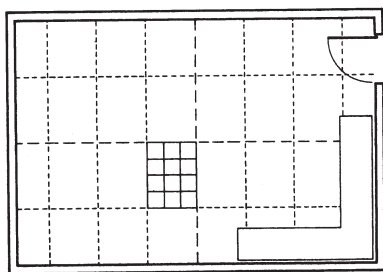

Fig. 10 - Lay out smaller sections for grouted floors.
- When installing grouted floors, divide the floor into smaller sections to help maintain consistent grout line widths and keep the joints running straight (Fig. 10). Each section should be the precise dimension of 2 or 3 whole tiles wide, including the grout line width. Lay out the smaller sections by starting at the center lines and measuring out toward the walls. It is not necessary to divide the room into smaller sections when installing ungrouted floors.